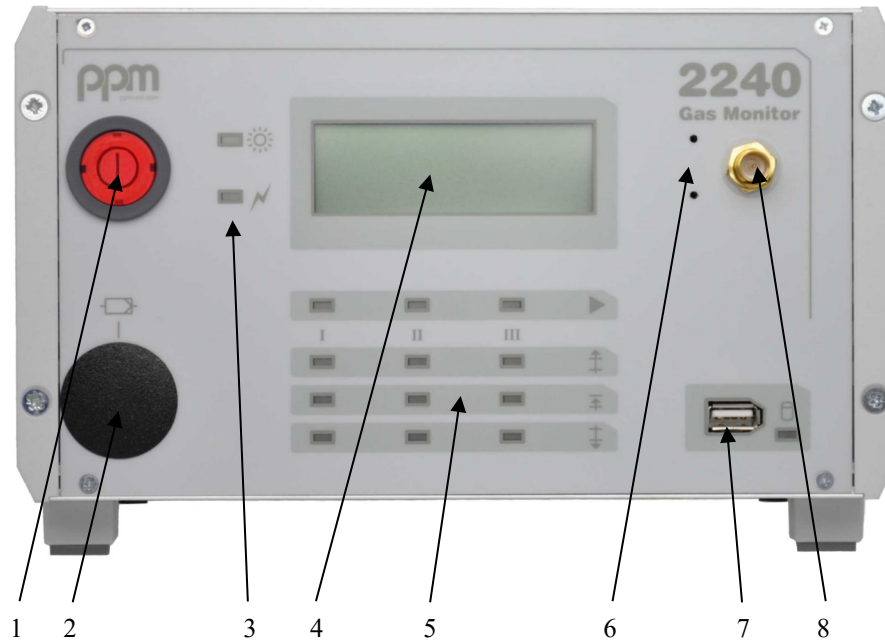

Fig. 1 Front View
At the right-hand side of the display two switches are to be found behind two small bores in the front plate. These switches may be activated with a simple slim screwdriver or with a similar tool (Fig. 1, item 6) in order to set for instance exact local time and calendar date. The setting of time and date is achieved by following steps: